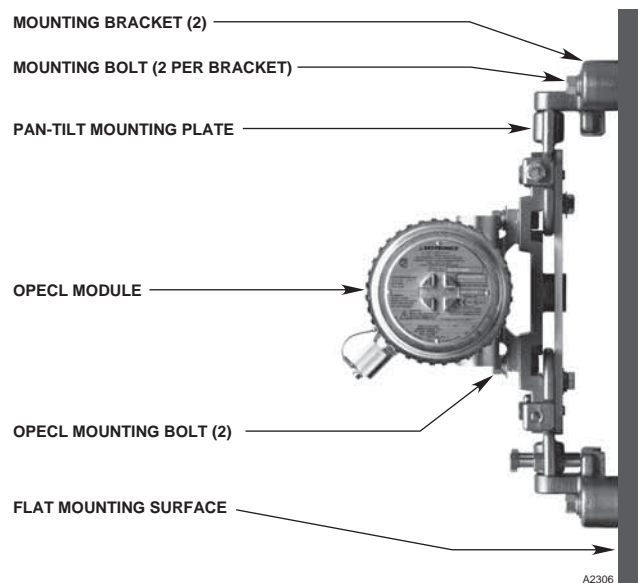

Figure 5—OPECL Gas Detector Mounted to Flat Surface
- For flat surface mounting, refer to Figure 5.